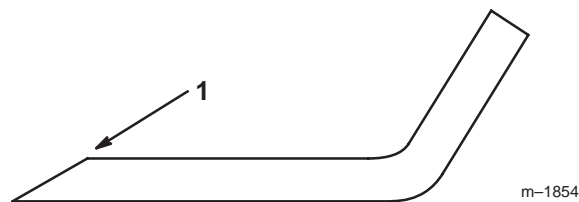

Figure 46
1. Use a file to sharpen the cutting edge at both ends of the blade (Fig. 46). Maintain the original angle. The blade retains its balance if the same amount of material is removed from both cutting edges.